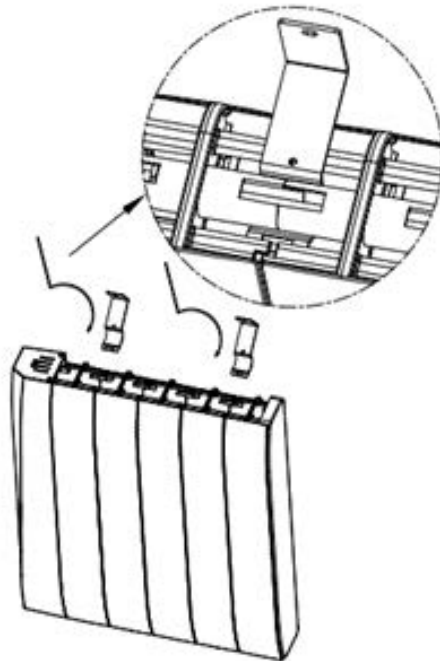

Figure 3: Attaching lower brackets to bottom of radiator
- Hook the 2 lower brackets into the slotted cylinders on the base of the radiator. Ensure that the lower brackets are positioned on the leftmost and rightmost cylinders for optimum weight distribution. (**Figure 3**)